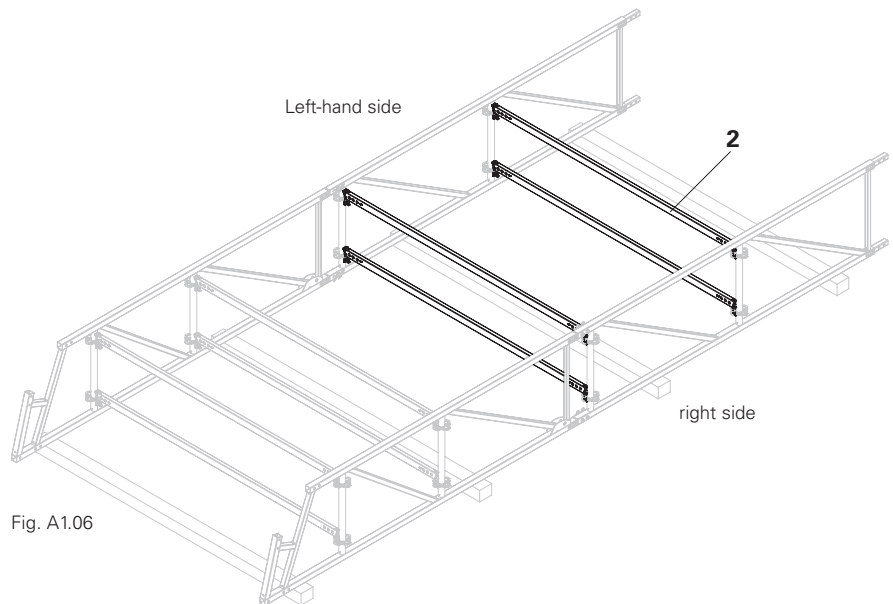

Fig. A1.06
- (Fig. A1.06 – without tension system)